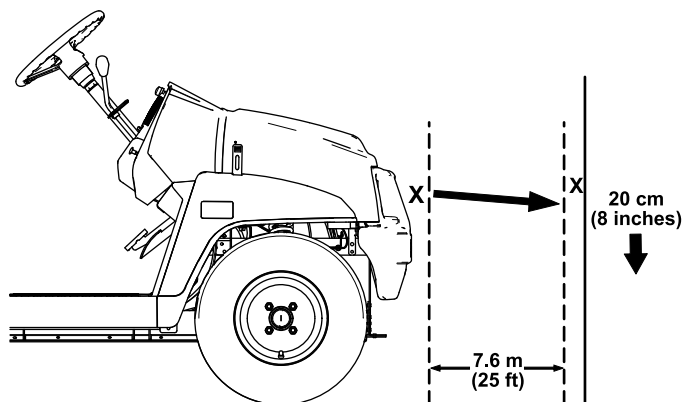

Figure 52
1. Park the machine on a level surface with the headlights approximately 7.6 m (25 ft) from a wall (Figure 52).
The brightest part of the headlight beam should be 20 cm (8 inches) below the mark placed on the wall (Figure 52).